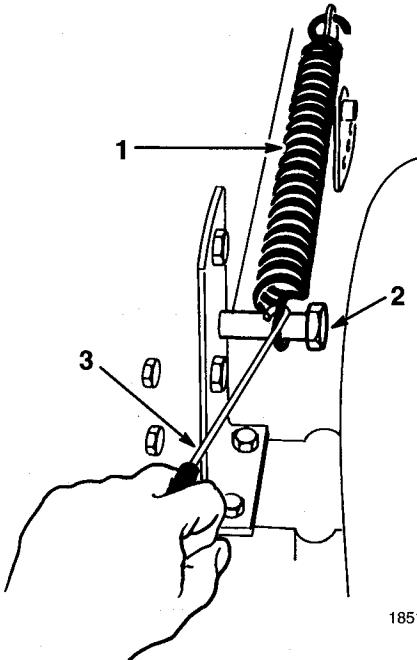

Figure 42
11. Hook the height-of-cut lift assist spring onto the retaining bolt (Fig. 42), using the spring tool provided with the machine.